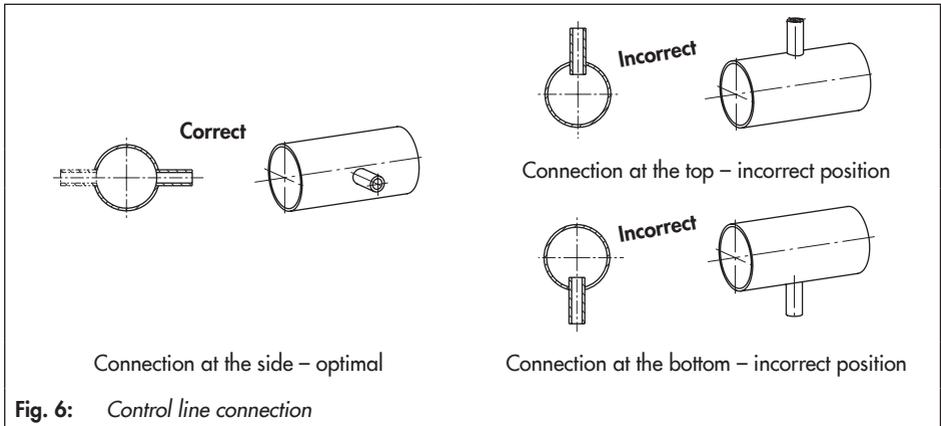

Fig. 6: Control line connection
- Connect external control lines at the side of the main pipe (see Fig. 6)